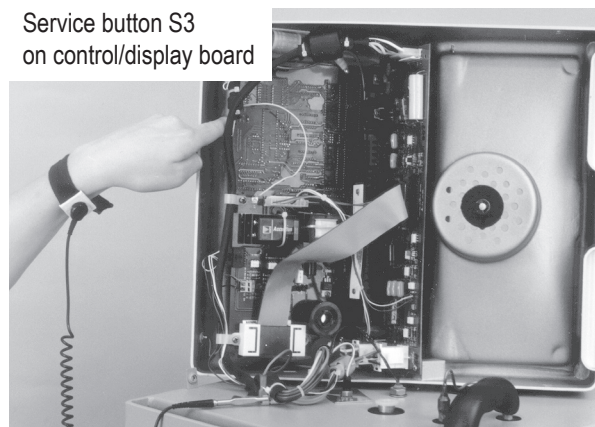

Figure 8—Initiating service mode 1
Wear a static control device connected to the chassis ground to prevent electrostatic discharge. (See figure 8, page 22.)
3. Lift the head, press and hold service button S3 on the low voltage control/display board (see fig. 8), then turn the machine on.
To access:	Press and hold S3 (see figure 8, p. 22) on the control/display board, then turn machine on.